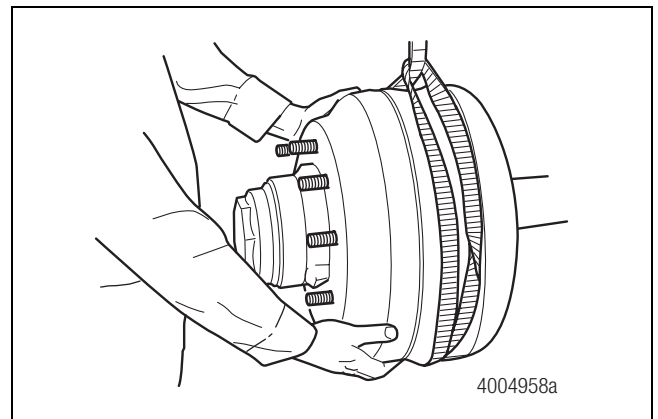

Figure 4.23
4. Release the brakes and remove the brake drum. Figure 4.23.